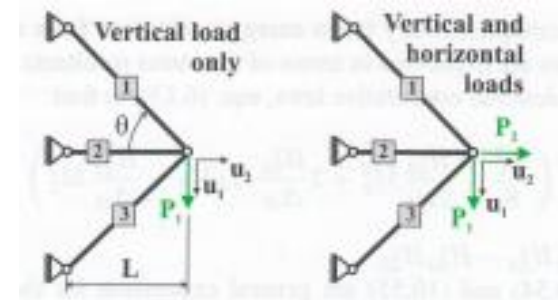

Fig. 10.16. Simple 3-bar truss
- 3-bar, hyperstatic truss (Fig. 10.16)